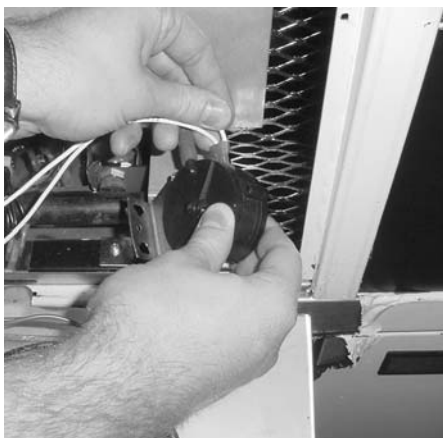

Figure 2-31
5. Label and remove wires from air switch. Figure 2-31.